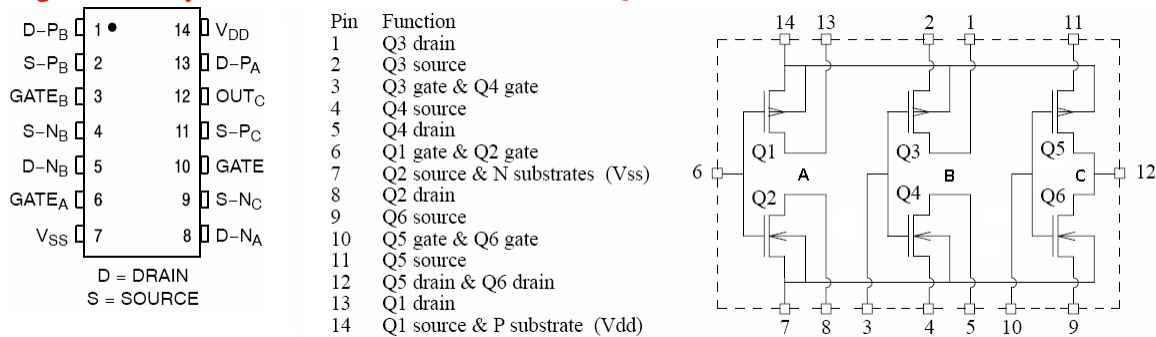

Figure 5. MC14007 or CD4007 Pin Connections
This section is divided into two parts. You can start your work at either part. Three n-channel MOSFETs and three p-channel MOSFETs are available on the MC14007 or CD4007 integrated circuit (IC) as shown in figure 5. The Q1, Q3, and Q5 transistors are the P-MOSFETs, and the Q2, Q4, and Q6 transistors are the N-MOSFETs. During this lab, we are going to use only one NMOS transistor which is Q4.